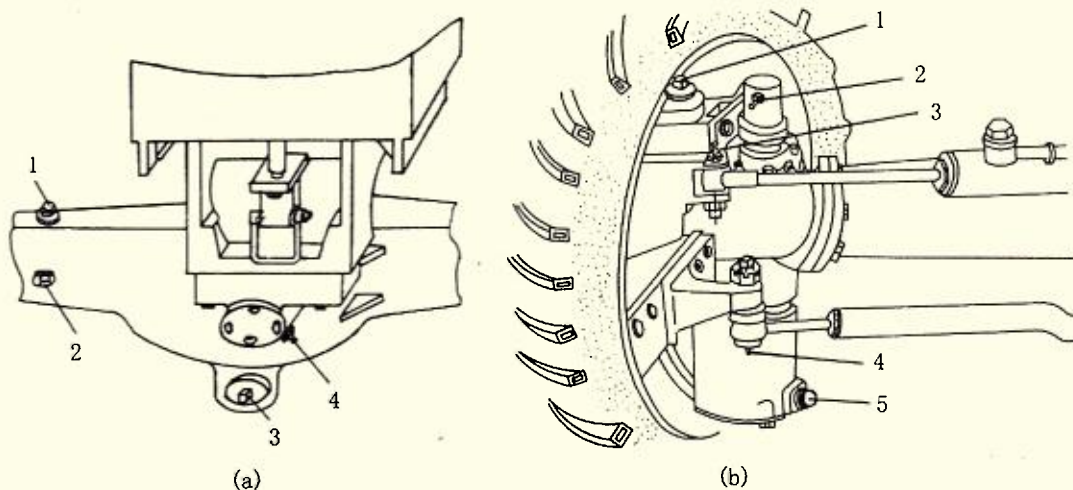

Fig. 25 - 8 Lubrication chart for the front drive axle
1. Front drive may be engaged to improve the adhensive character and traction performance when the tractor is used for heavy field jobs or works on soft and wet land. When engaging the front drive, put the transfer gearbox control lever under the righth side of the driver (No. 32 in Fig. 2 - 1 i. e. No. 1 in Fig: 25 - 2) to its rear position and the power is transferred from the rear axle to the front drive axle via transfer gearbox. If the tractor works well with the two rear driving wheels, do not engage the front drive as possible.
4. The maintenance method, procedure and maintenance intervals of the front drive axle are similar to those of the rear axle of model Jiangsu - 500 tractors. The lubricant in the front drive axle housing and front final drive housing is mixed oil and other lubrication fillers can be filled with No. 2 calcium base grease. See a) and b) in Fig. 25 - 8.